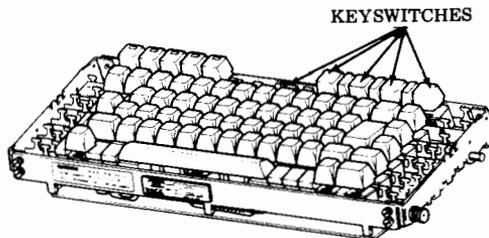

Fig. 18—Keyswitch Identification
- (c) Remove the INTERLOCK, PRINTER TEST, PARITY, DUPLEX and CPS keyswitches (Fig. 18).